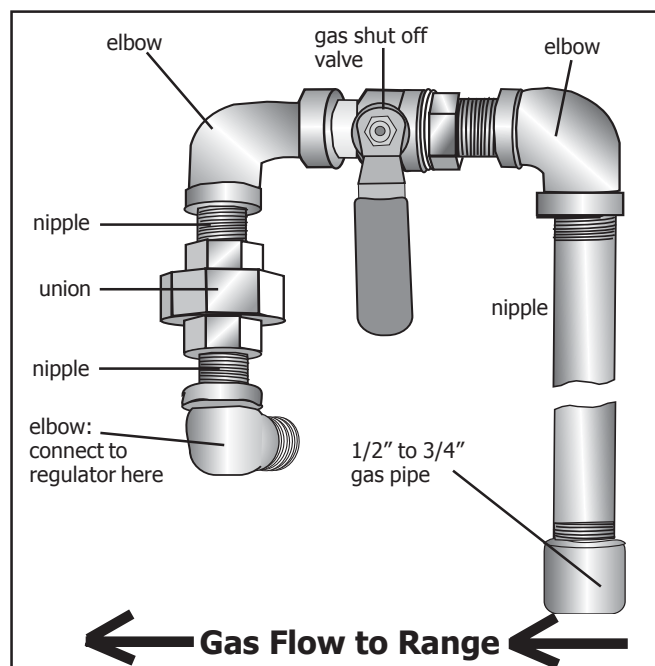
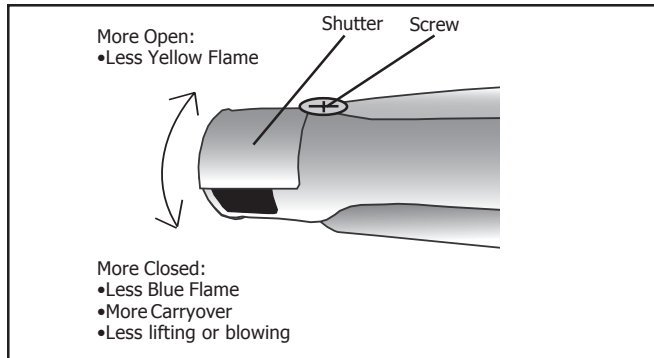

Figure 6: Rigid Pipe Method
Figure 8
**Rigid Pipe Method** (see Figure 6, this page)
The configuration of the rigid pipe connection will vary depending on the location of the gas pipe stub. Refer to Figure 6 for details.
**Test Bake Burner Flame.** While the burner is lit, inspect the flame. See Figure 6 for proper flame characteristics. If the flame burns completely or mostly yellow, adjust the bake burner air shutter. See Figure 8 (next page) for details.
**Test Broil Burner Flame.** While the burner is lit, inspect the flame. See Figure 6 for proper flame characteristics. If the flame burns completely or mostly yellow, adjust the broil burner air shutter. See Figure 8 (next page) for details.
The air shutter is located on the back end of the broil burner. It is attached to the top of the oven cavity with 7 screws. Remove screws and gently pull broil burner assembly straight out being careful not to detach electrical wires. Place broil burner against back wall of oven cavity. Loosen screw and turn shutter. Close the shutter if the flame is lifting or blowing or not carrying over; Open the shutter if it is too yellow (see Figure 8). Tighten screw. Replace broil assembly being careful to feed all wires through the back of the oven. Reinsert all 7 screws.